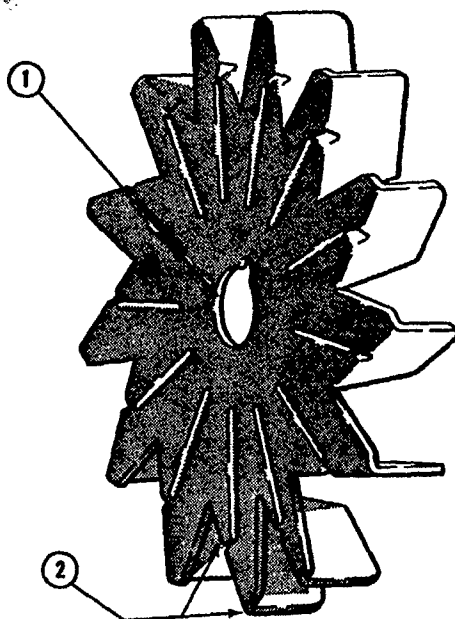

Figure 50
1. Inspect the fan for cracked or broken fins, also note the condition of the mounting hole. If the hole is worn from running loose, install a new fan. See Figure 50.